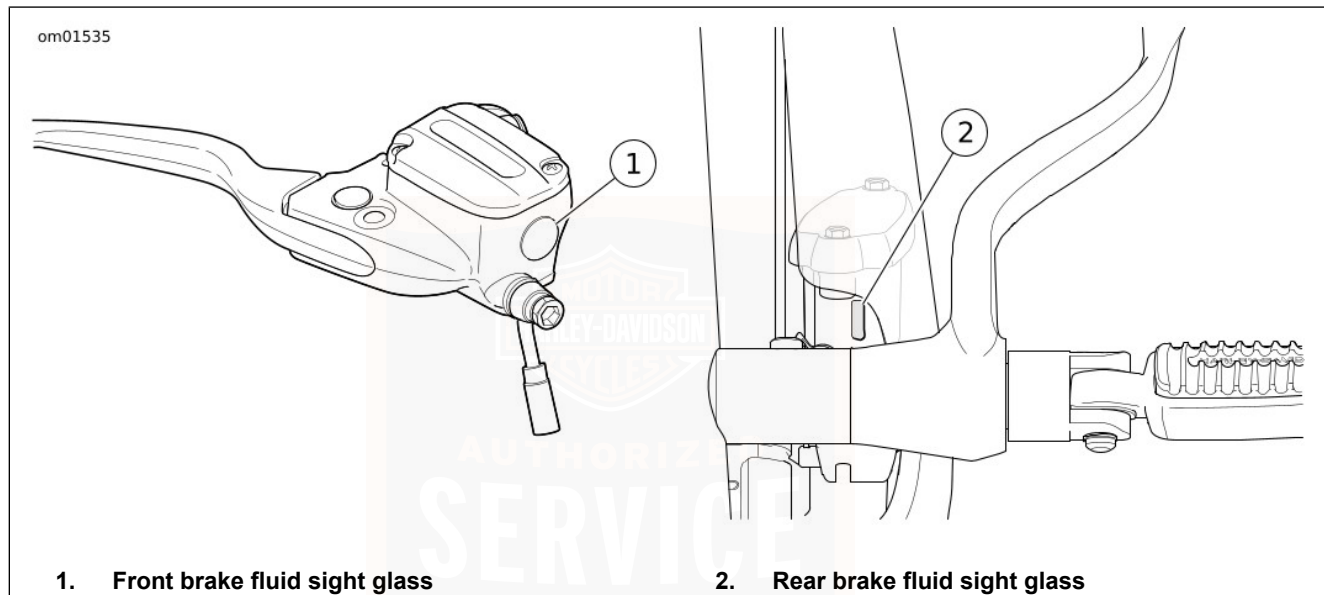

Figure 37. Brake Fluid Reservoirs
See Figure 37. View sight glass (1) to verify that fluid level is at or above the center of sight glass.